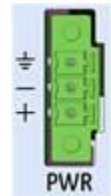

Figure 16: CPE100 Power Connector & Pinout
- b. The polarity may be reversed. Verify the polarity of the incoming DC power. The positive, negative, and earth symbols are printed on the power connector of the front panel, as indicated in Figure 16.